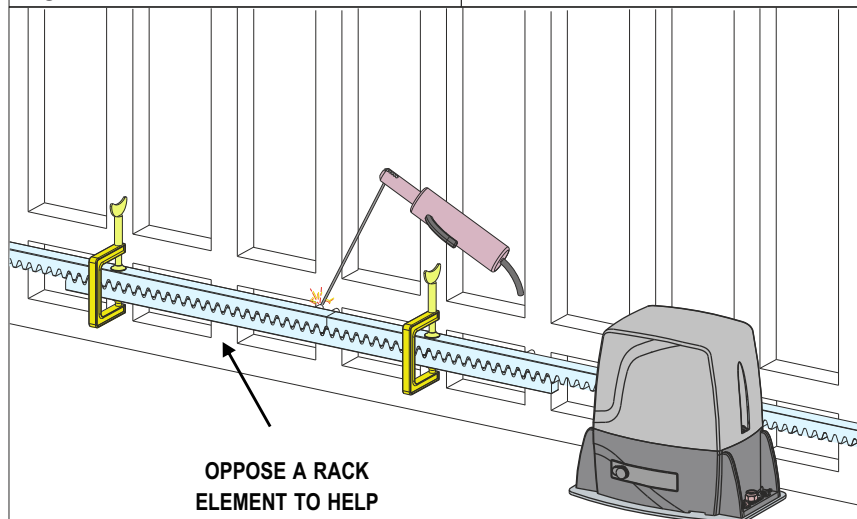

Fig. 11
- 7.4. Make sure that all the gear rack elements are perfectly aligned and correctly placed (**the teeth must be in phase**). It is suggested to oppose an element to two aligned elements as shown in Fig. 11;